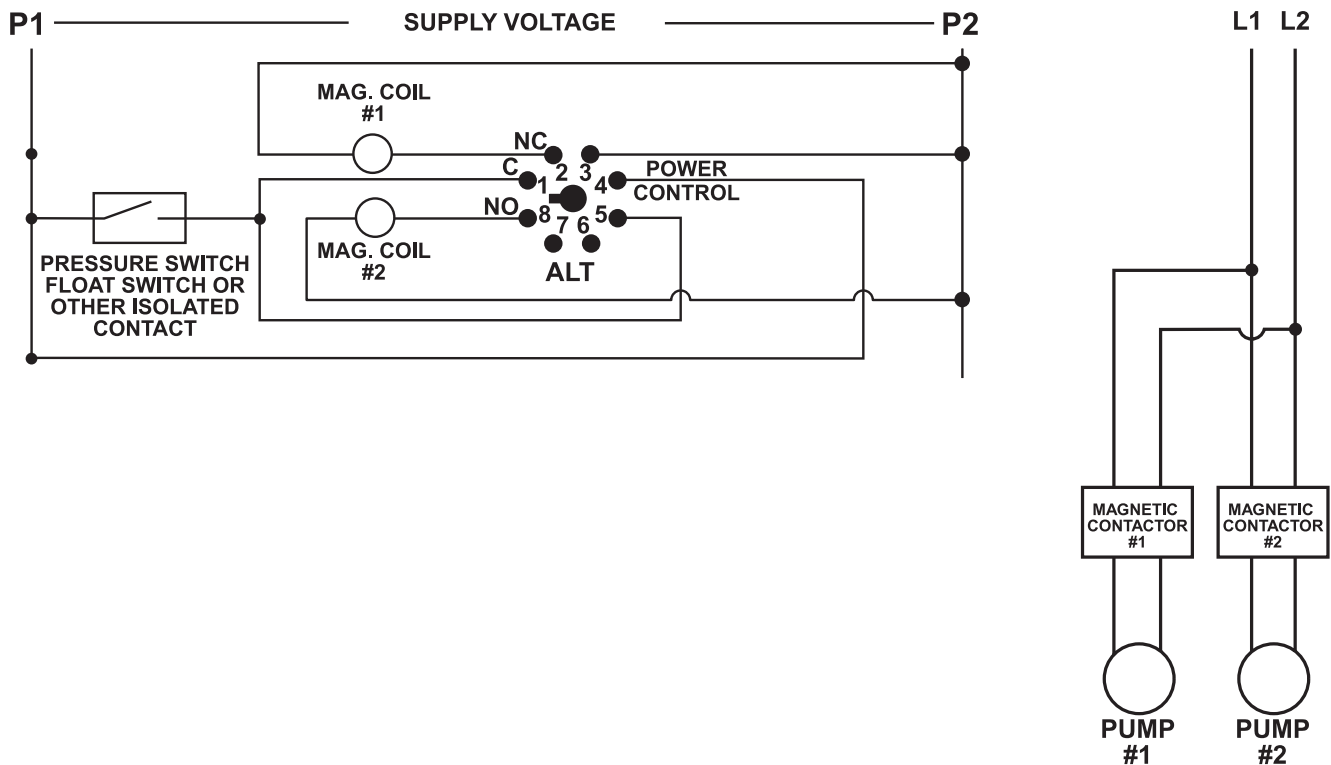

FIGURE NO. 1: Typical Wiring Diagram for the Model ALT-xxx-S
2. Connect one of the pump's magnetic contactor coils (#1) between socket terminal 2 and one side of the power supply (see Figure No. 1).
3. Connect the other pump's magnetic contactor coils (#2) between socket terminal 8 and the same side of the power supply as in step #2 (see Figure No. 1).
4. Connect socket terminal 1 and 5 to one side of the pressure or float switch as shown in Figure No.1.